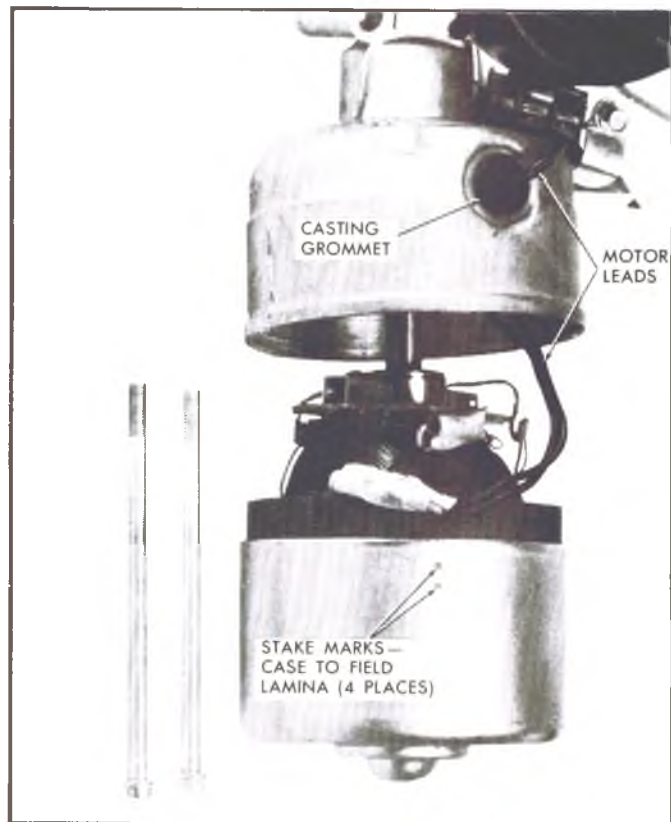

Fig. 29--Wiper Motor Separation
3. Feed exposed excess length of motor leads through the casting grommet and carefully back the case and field assembly plus the armature away from the casting (fig. 29).